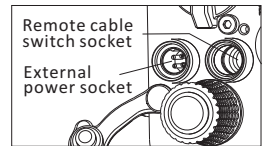

Fig 4
- 1) Uncover the socket protective cover (Fig 4).